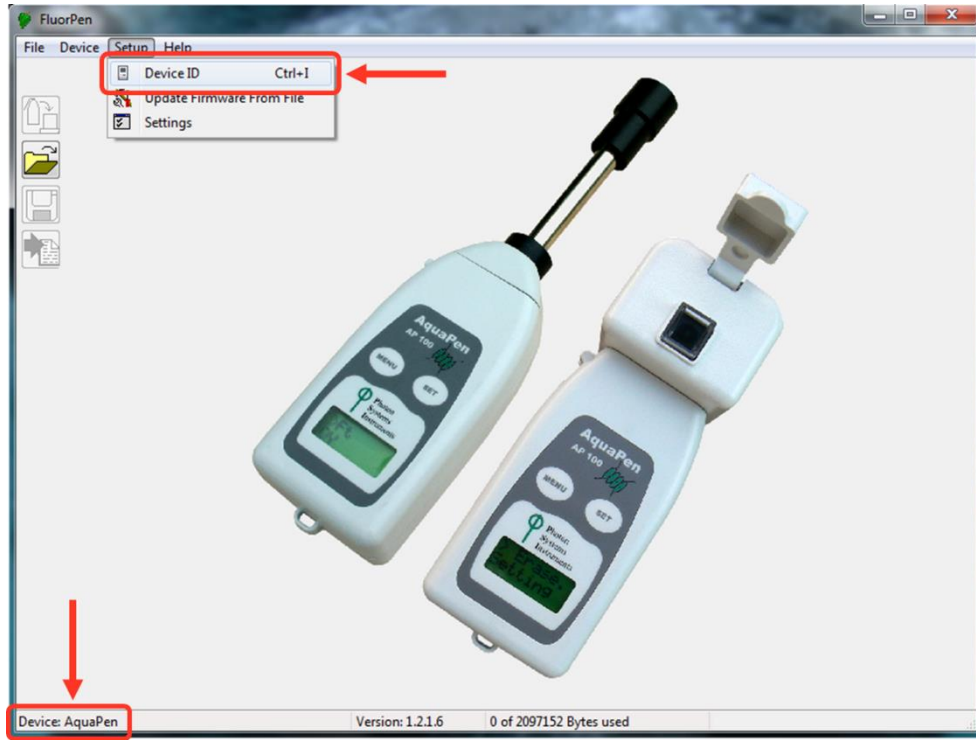

Fig. 19 Connecting AquaPen with Software.
5. In the software select: **Setup > Device ID (Ctrl+I)**. If properly connected, the message “Device: AquaPen” appears in the bottom part of the screen (Fig. 19). If the connection is not successful then message “Device not found” will appear. In the latter case check all the connections (USB) and Bluetooth pairing